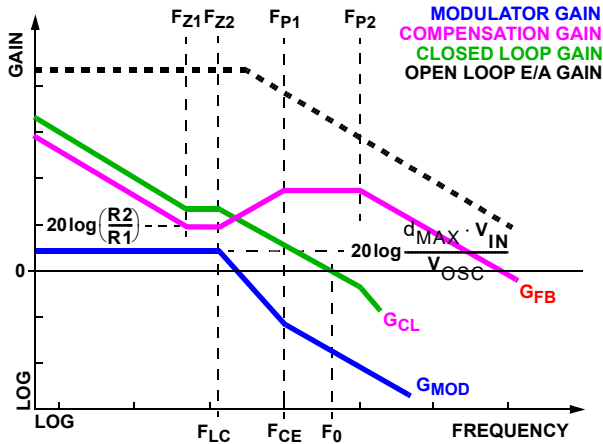

FIGURE 11. ASYMPTOTIC BODE PLOT OF CONVERTER GAIN
Figure 11 shows an asymptotic plot of the DC-DC converter's gain vs. frequency. The actual Modulator Gain has a high gain peak dependent on the quality factor (Q) of the output filter, which is not shown. Using the above guidelines should yield a compensation gain similar to the curve plotted. The open loop error amplifier gain bounds the compensation gain. Check the compensation gain at F_{P2} against the capabilities of the error amplifier. The closed loop gain, G_{CL}, is constructed on the log-log graph of Figure 11 by adding the modulator gain, G_{MOD} (in dB), to the feedback compensation gain, G_{FB} (in dB). This is equivalent to multiplying the modulator transfer function and the compensation transfer function and then plotting the resulting gain.